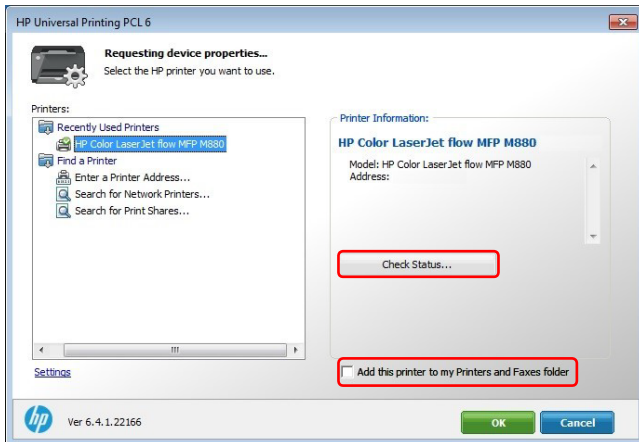

Figure 7-7 HP UPD Dynamic mode dialog box
6. To verify whether this printer contains the necessary supplies for the print job before printing, click the **Check Status** button as shown in figure 7-7.
7. To add a recently used printer to the **Printers** folder, select the **Add this printer to my Printers folder** option as shown in figure 7-7.
7. To add a recently used printer to the Printers folder, select the **Add this printer to my Printers folder option** as shown in figure 7-7.